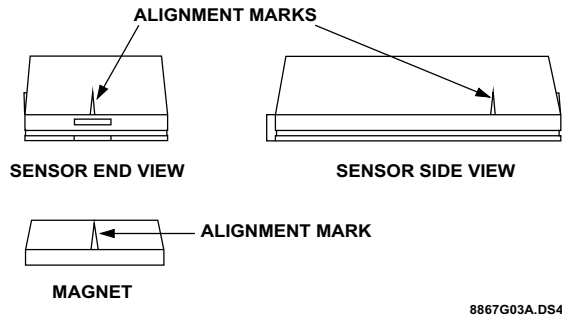

Figure 1. Alignment marks
- 1) Decide if the sensor should be mounted horizontally or vertically by locating the alignment marks on the sensor and magnet plastic (see Figure 1.)